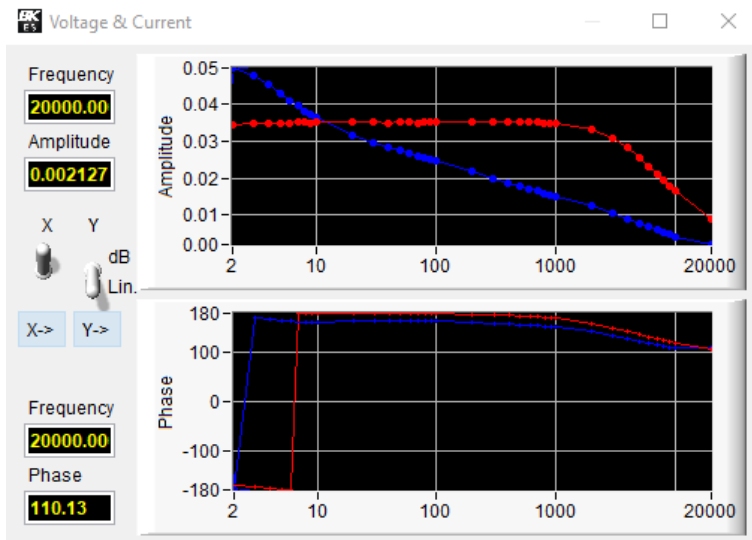

Figure 6.5 Voltage & Current Graph
- Graphs the magnitude and phase of the acquired AC voltage and current in the frequency spectra. See **Figure 6.5**